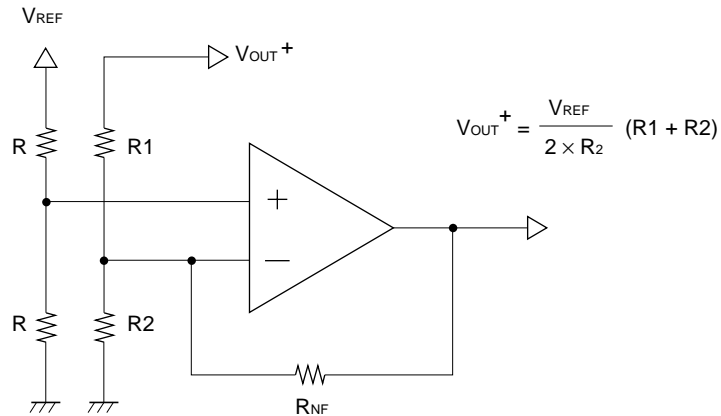

Figure 1 Setting the output voltage (positive output voltage (V_{OUT}))
Set the output voltage by connecting the input pins (+IN, -IN) and output pin (FB) of error amplifiers 1 and 2 as shown in Figures 1 and 2.